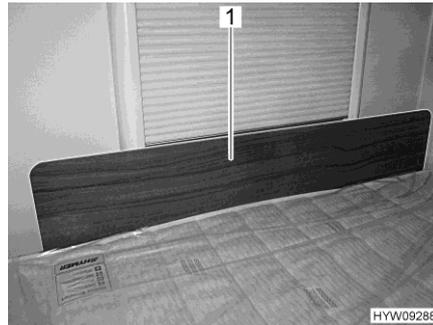

Fig. 79 Protective panel / fall out protection
- Plug in the protective panel (Fig. 79,1) in front of the window, between mattress and window frame. The clamping effect of the mattress holds the protective panel in its position in front of the window frame.